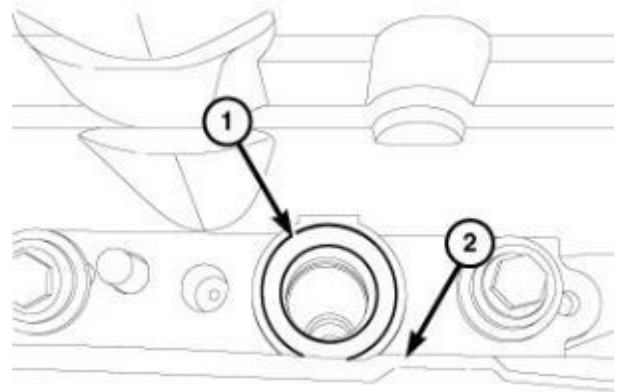

Figure 62 - Fuel Injector Seal
52. Install a **NEW** fuel injector seal (1) in the cylinder head cover (2) (Figure 62).